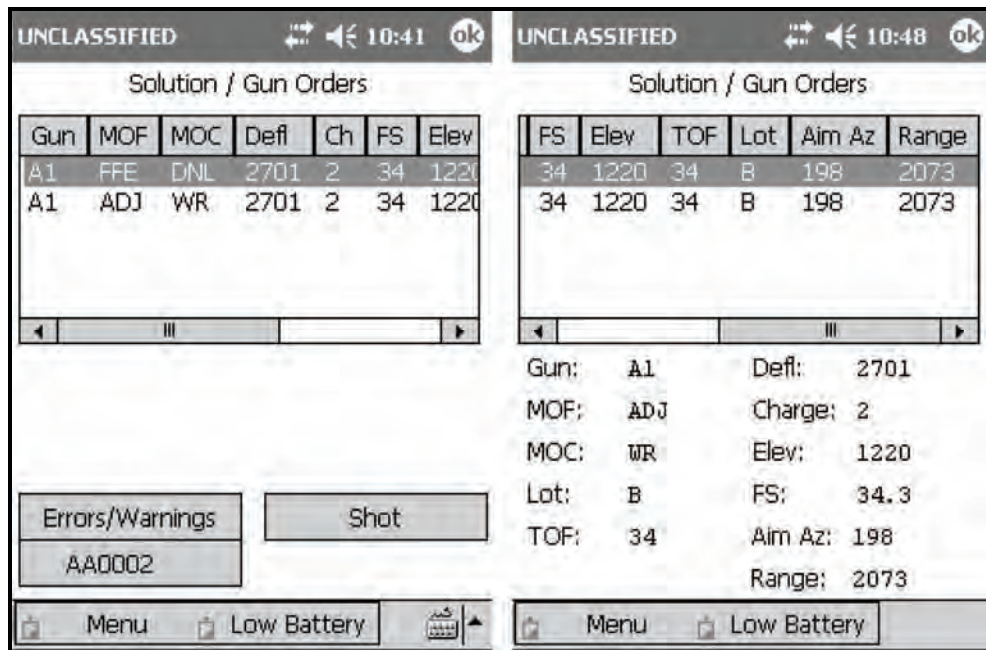

Figure 18-46. Illumination: solution and display of fuze setting.
1. Do not read the fuze setting from the data window. When displayed in the Gun Solution data line, only the integer part of the fuze setting is listed. Select the A1 ADJ data line, and drag the stylus to the bottom of the screen to read the proper fuze setting. Select the fuze setting again before performing the next step. (See Figure 18-46)